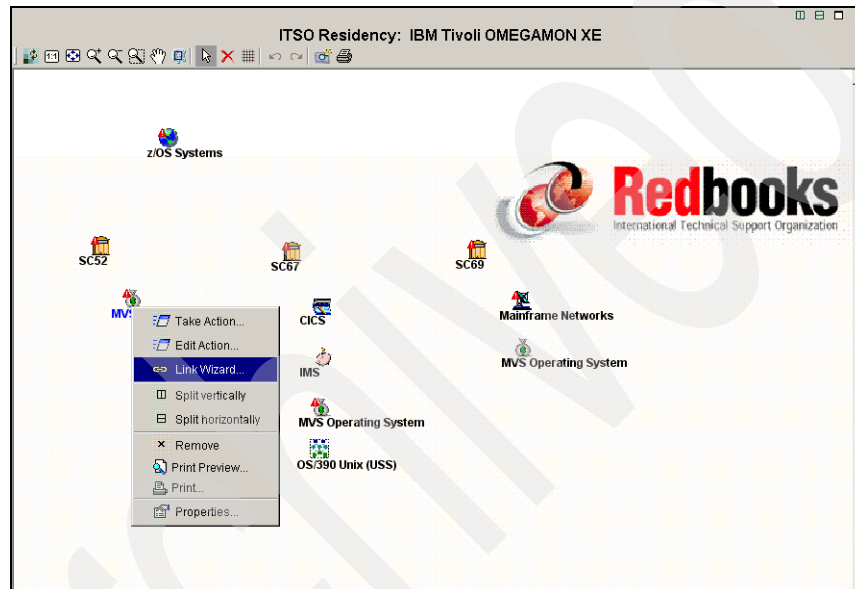

Figure 6-4 Linking from an icon in a graphic view
- ▶ A graphic view item (an icon). In Figure 6-4, you can access the Link Wizard from an icon.